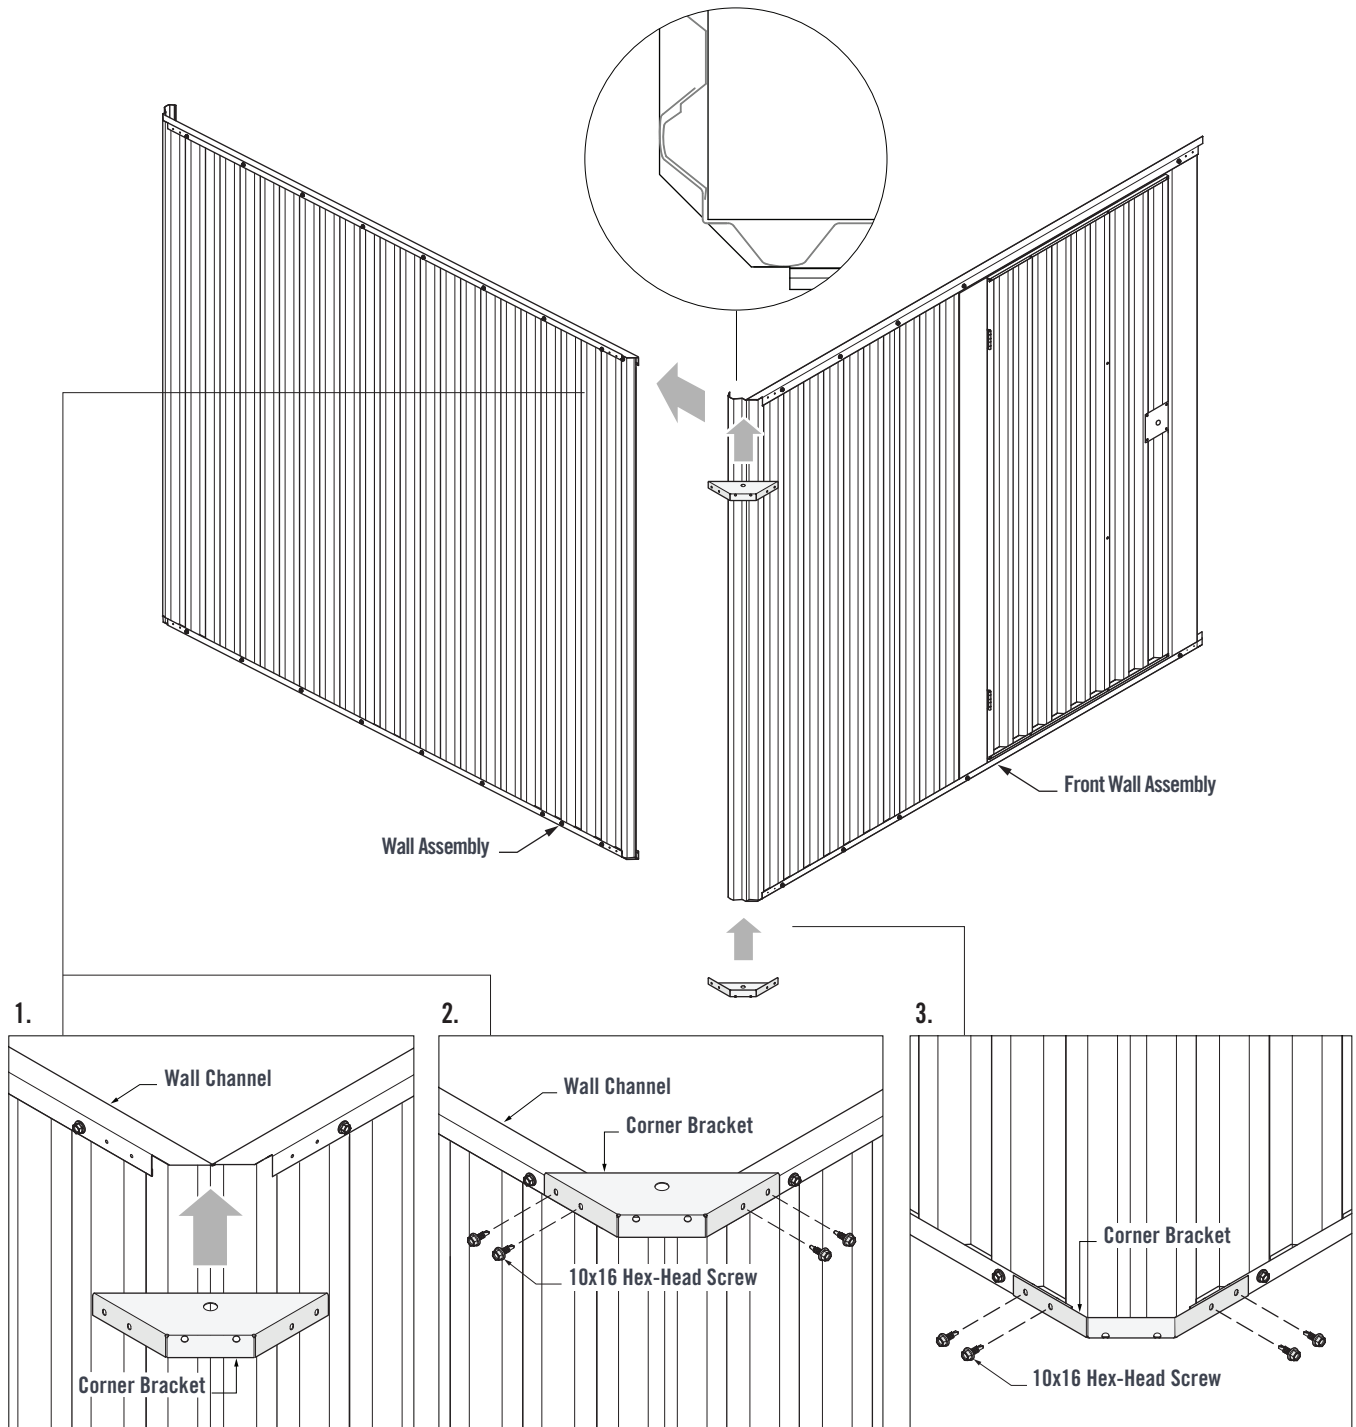

FIGURE 4.0
The wall assemblies can now be joined together. Fit the Corner Wall Sheet of the Front Wall over the Side Wall Sheet. Ensure the Corner Sheet fits inside the Side Wall Channels (Figure 4.0).
3. Fit a Corner Bracket to the bottom Wall Channels. Fasten through the Corner Bracket pilot holes and into the bottom Wall Channels using four 10x16 Hex-Head Screws (Figure 4.0).
Fit the Remaining Wall Assemblies together with Corner Brackets as per Figure 4.0.